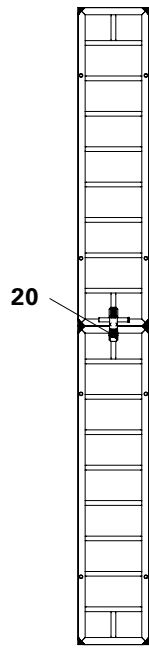

Fig. A14.01a
With height extension units < 5.40 m, the Alignment Coupler BFD (20) is used on the panel joints. (Fig. A14.01a – d)